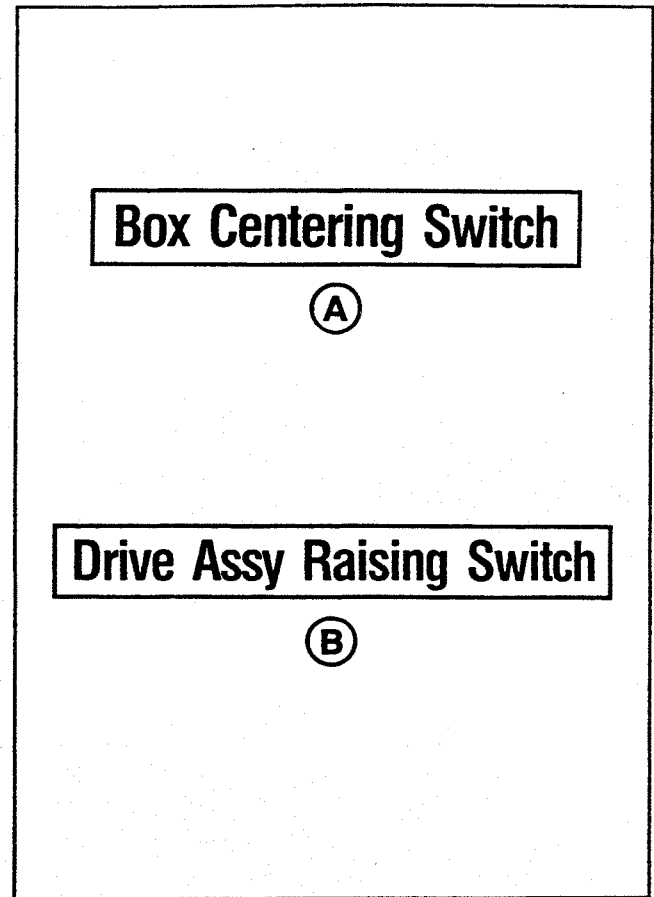

Figure 1-11 - Box Centering Switch/Drive Assembly Raising Switch
The "Box Centering Switch" label (A), shown in figure 1-11, is attached to the switch which is located in the center of the bed frame at the infeed end. The label identifies the box centering switch.
The "Drive Assembly Raising Switch" label (B), shown in figure 1-11, is located above the switch which is at the front of the upper frame. The label identifies the drive assembly raising switch.